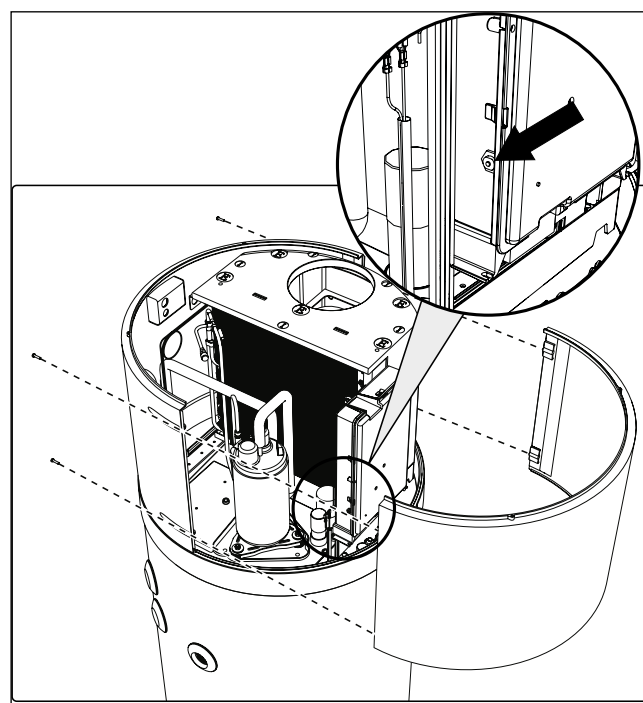

fig. 75- Front panel removal
- Remove the front panel and manually reset the tripped safety thermostat (fig. 75). In case of intervention, the central pin of the thermostat comes out by about 2 mm.